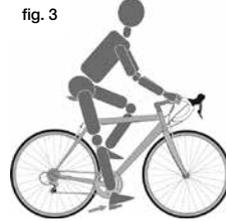

fig. 3
1. **Up and down adjustment. To check for correct saddle height (fig. 3):**